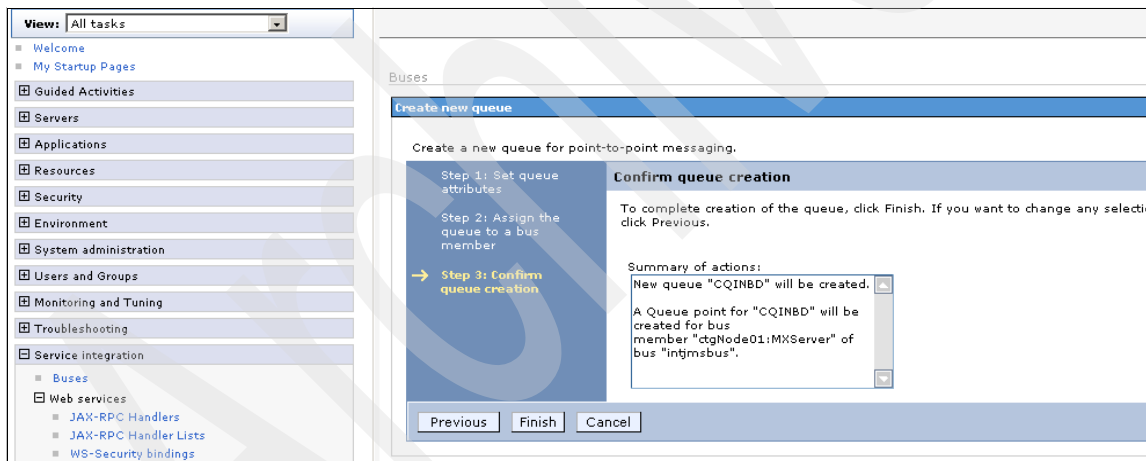

Figure A-35 Finish queue creation
5. Review your selections, then click **Finish** to complete the creation of the CQINBD bus destination queue (see Figure A-35).